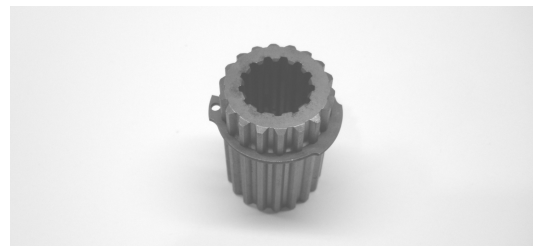

**Figure 5—Remove the splined coupling from the inverter as shown.**
2. Separate the pump from the inverter and locate the splined coupling. It may remain in the inverter (**Figure 5**) or on the pump shaft (**Figure 6**). Pull the coupling out of the inverter or off the pump shaft as necessary.